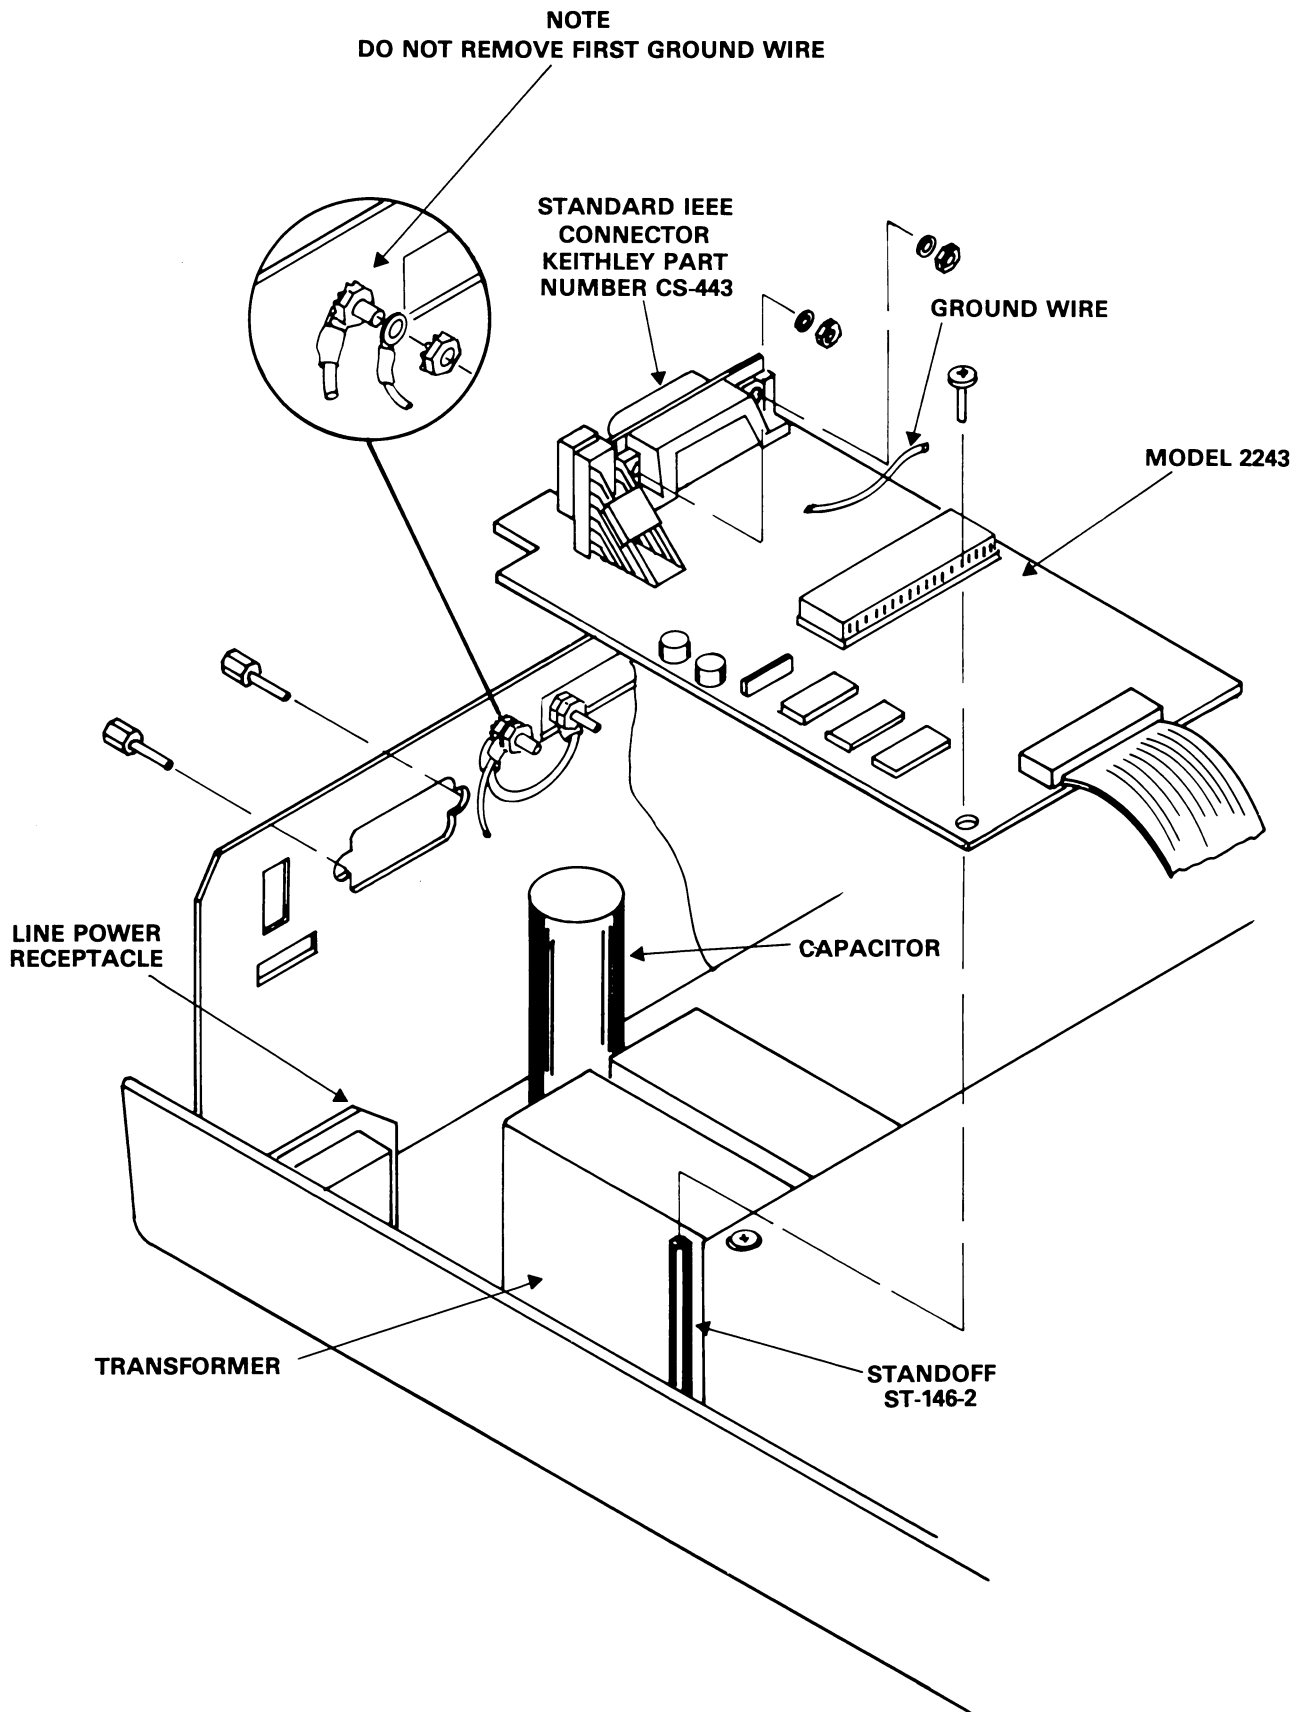

Figure 5-1. Model 2243 Installation
To install the Model 2243 IEEE interface into the Model 224 Programmable Current Source use the following procedure and refer to Figure 5-1.
4. Place the standoff (ST-146-2) as shown in Figure 5-1.
5. Position the Model 2243 into the Model 224 as shown in Figure 5-1.
7. Connect the chassis ground wire as shown in Figure 5-1.
8. Plug the cable P1004 into J1004 on the mother board. See Figure 5-1. Make absolutely sure that pin 1 of P1004 is connected to pin 1 of J1004.
Do not remove the installed ground wire. Use the second nut to install the ground wire of the IEEE interface as shown in Figure 5-1.